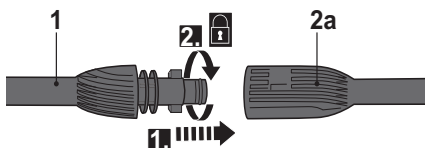

Fig. 5
> Align the tongues of the pressure lance (1) with the grooves of the lance connection port (2a) and insert it (Fig. 5, step 1).
> Securely fit the pressure lance (1) by turning it clockwise and letting it lock into place (Fig. 5, step 2).